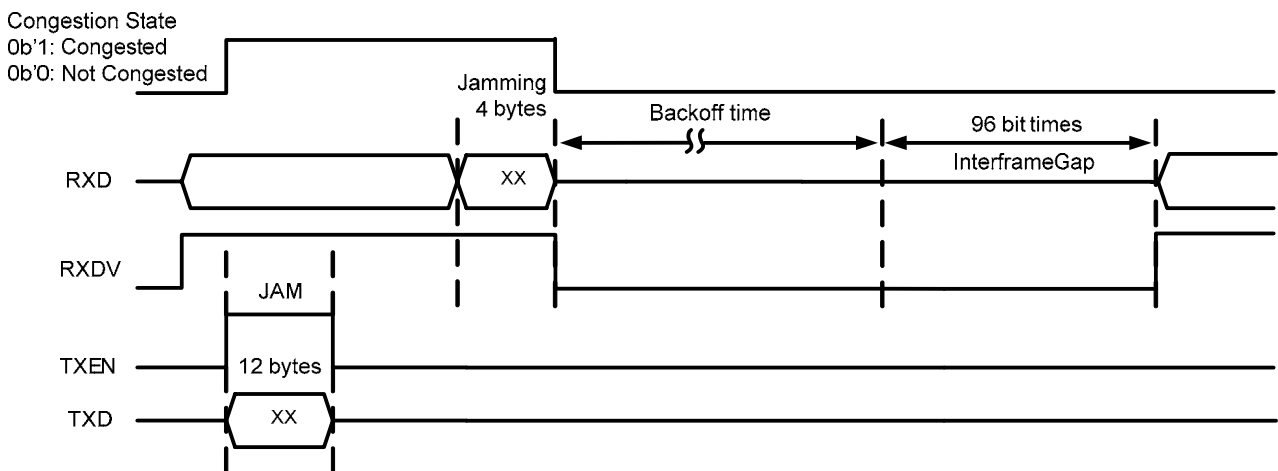

Figure 15. Signal Timing for Collision-Based Backpressure
- After the RTL8380M-VB/RTL8382M-VB/RTL8382L-VB receives this jamming signal, it drives RXDV low. The link partner waits for a random backoff time then re-sends the packet. The timing is shown in Figure 15